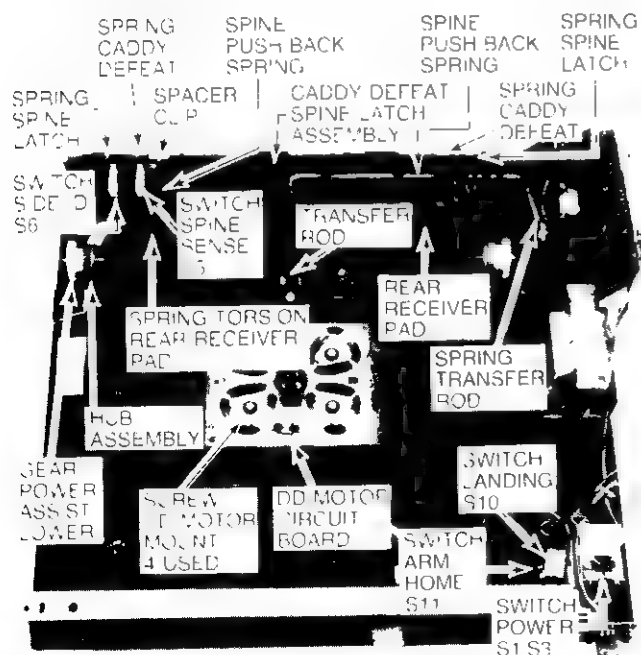

Fig. 19—Miscellaneous Disassembly
- 1 With guide rail assembly and turntable removed—release tension on rear receiver pad assembly torsion spring (Fig. 19) and remove wires to switch S8 from wire guide stud. Move switch and wire out of the way.
- 2 Lift rear receiver pad assembly (Fig. 19) straight up and remove from baseplate
- 1 With guide rail assembly removed—release caddy defeat springs (Fig. 19) from baseplate studs
- 2 Remove spacer clip (Fig. 19) from caddy defeat and spine latch assembly
- 3 Slide caddy defeat and spine latch assembly (Fig. 19) to right—raise left side of assembly to clear mounting stud and slide assembly to left to remove.
- 1 With Guide Rail, Rear Receiver Pad and Caddy Defeat/Spine Latch assemblies removed—release Transfer Rod spring (Fig. 19) from baseplate stud
- 2 Rotate Transfer Rod (Fig. 19) upward to clear center portion of baseplate